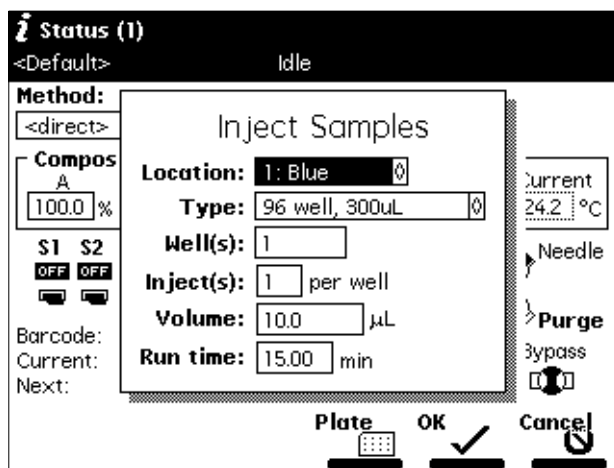
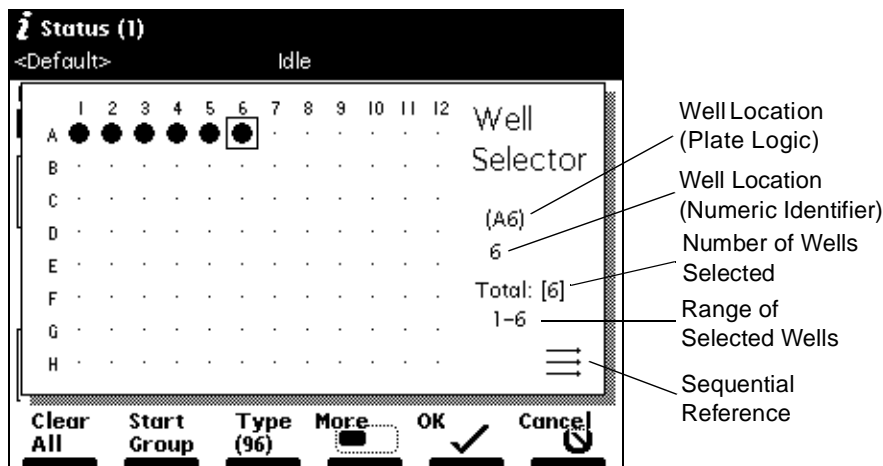

Figure 2-10 Inject Samples Dialog Box
Figure 2-11 Well Selector
6. Select **Inject Samples**, then press **Enter**. The Inject Samples dialog box appears (Figure 2-10), displaying six parameter fields. Table 2-2 describes the parameters in the Inject Samples dialog box.
To access the Well Selector when you are performing an Inject Samples direct function (Figure 2-10), press the **Plate** screen key. The Well Selector is displayed (Figure 2-11).